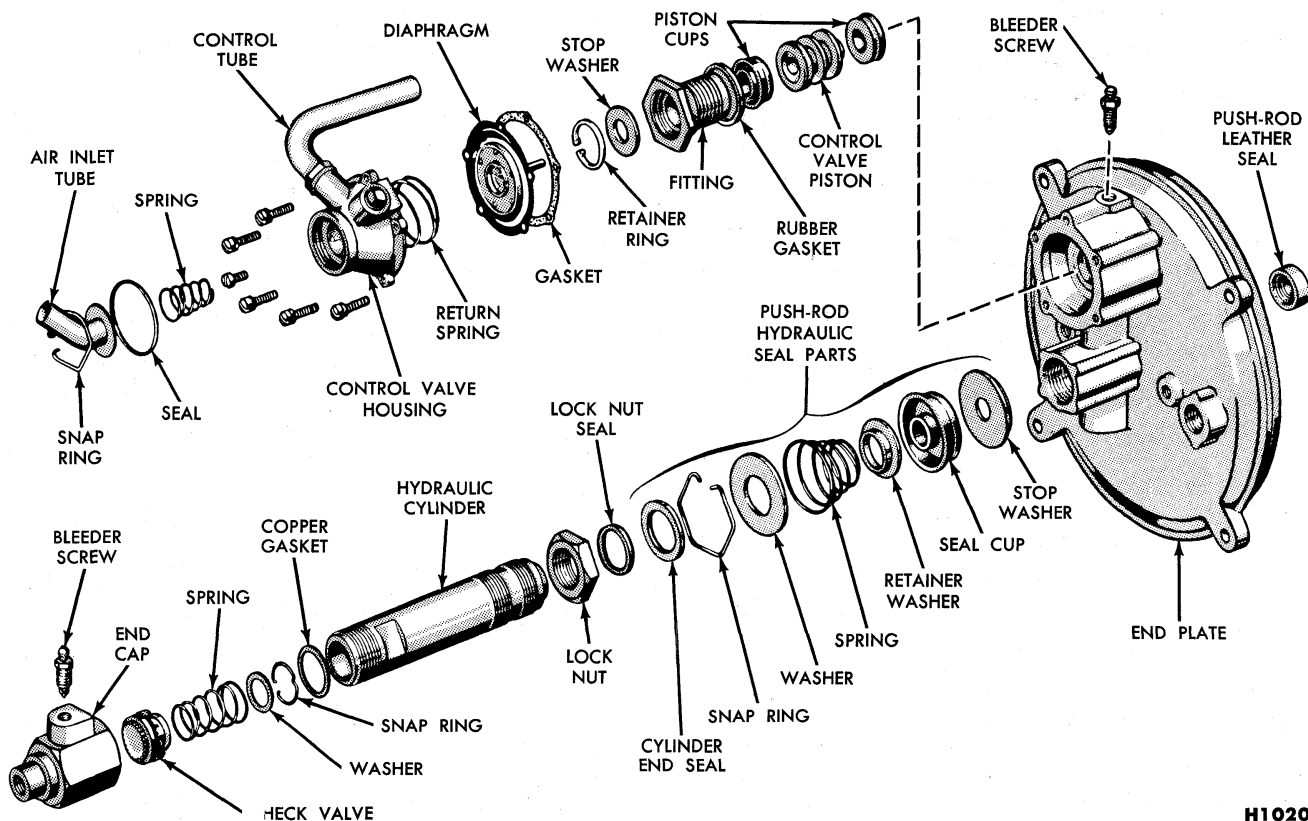

FIG. 31—End Play Disassembled—9½-Inch Booster
and check valve (Fig. 31). A truck with a 9½-inch booster has a check valve mounted in the end cap. Therefore, a check valve is not used in the master cylinder on these trucks.
On a 9½-inch booster, remove the cups from the piston (Fig. 31).
1. On a 9½-inch unit, assemble the check valve parts in the end cap (Fig. 31), and secure them with the lock ring. Be sure the lock ring is firmly seated in the groove.
On a 9½-inch unit, assemble the piston cups into the grooves of the piston. The cups must be assembled with their lips pointing away from each other (Fig. 31). Insert the piston and cups into the fitting with the hole end of the piston next to the stop washer.